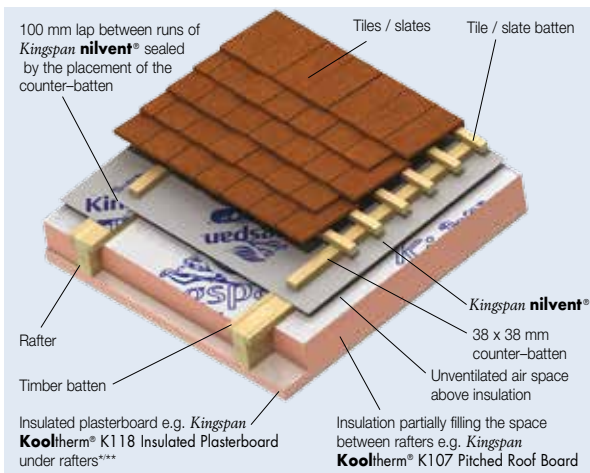

Figure 2 – Partially Filled Insulation Between Rafters – No Sarking Board – Battens & Tiles
*Kingspan nilvent*® is installed in vertical runs, from eaves to eaves, in one length, under counter-battens (see Figure 2). Installed in this way there will be no laps along the length of a run and laps between runs can be formed over a rafter, where counter-battens can secure them and make an airtight joint. The membrane should be laid taut, with no valleys between rafters.
The use of vertical runs of *Kingspan nilvent*® is not as practical a method of installation as horizontal runs, however, it is easy to achieve airtightness as the laps between runs are sealed by the counter-battens that are installed over them (see Figure 2).